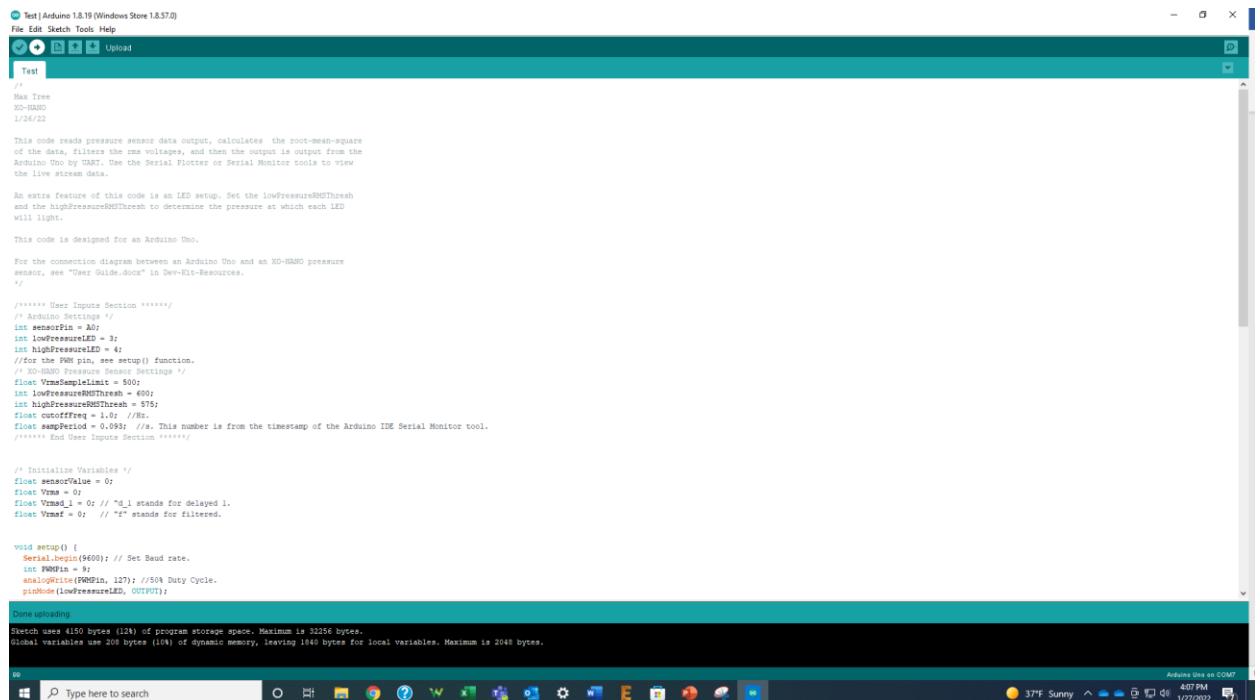

Figure 12 The upload button is located in the upper left and corner. In this screen shot, it is the circular button with an arrow that is highlighted white.
9. Upload the file onto the Arduino Uno (See Fig. 12)